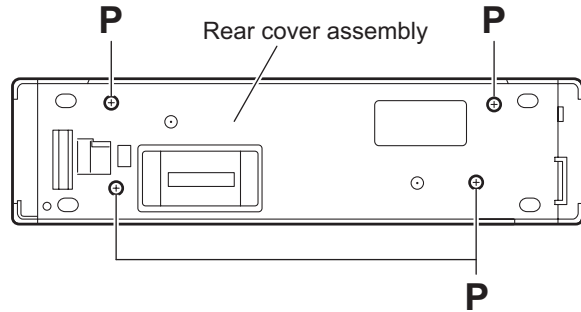

Fig.15
(See Figs.15 to 18)
- (1) From the rear side of the front panel assembly, remove the four screws **P** attaching the rear cover assembly to the front panel assembly. (See Fig.15.)